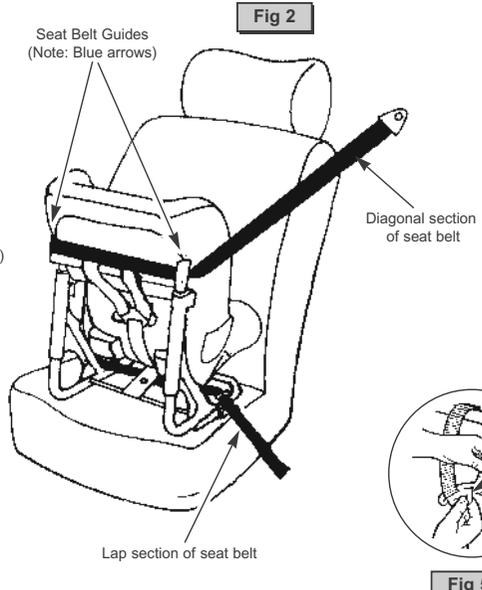

Fig 2
- Place the child safety seat in the recline position in any passenger seat which has a 3-point adult lap and diagonal seat belt fitted (Fig 2) Pass the adult seat belt between the seat moulding and frame (Fig 2), fasten the seat belt. Now open the red lock off belt guide and place the diagonal belt under the red lock-off belt guide nearest to the side of the vehicle and make sure that the lap section of the adult 3-point lap and diagonal belt passes in front of the red lap belt guides. If necessary kneel on the child safety seat to push it into the vehicle seat, pull the diagonal belt up and ensure that both the lap and diagonal sections are tight, then push the red lock-off guide in to grip the seat belt.
- Adjust the seat to its reclined position and place the Child Safety Seat in the car facing the rear with the seat front edge against the car seat backrest. Take the adult 3-point seat belt and thread the lap section through the lap belt hooks, (blue arrows) see Fig 2. Make sure that the top section of the seat belt is not twisted and remove all slack from this section of the belt before continuing. Connect the seat belt tongue with the buckle, then pass the diagonal section of the seat belt through the gaps between the seat moulding and seat belt guides, (blue arrows) see Fig 2. Now push the child seat downwards (using your body weight if necessary) and pull the diagonal webbing as tight as possible, ensuring there is no slack in any part of the seat belt. **REMEMBER to check that your seat is secure before every journey.**